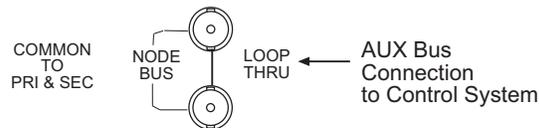

Figure 3-21. GSC Node Bus Connection to Control System (Rear View)
- 1 Locate the GSC Node Bus connection on the rear of the router, as shown in Figure 3-21. The GSC Node Bus connection is labeled 'NODE BUS'.